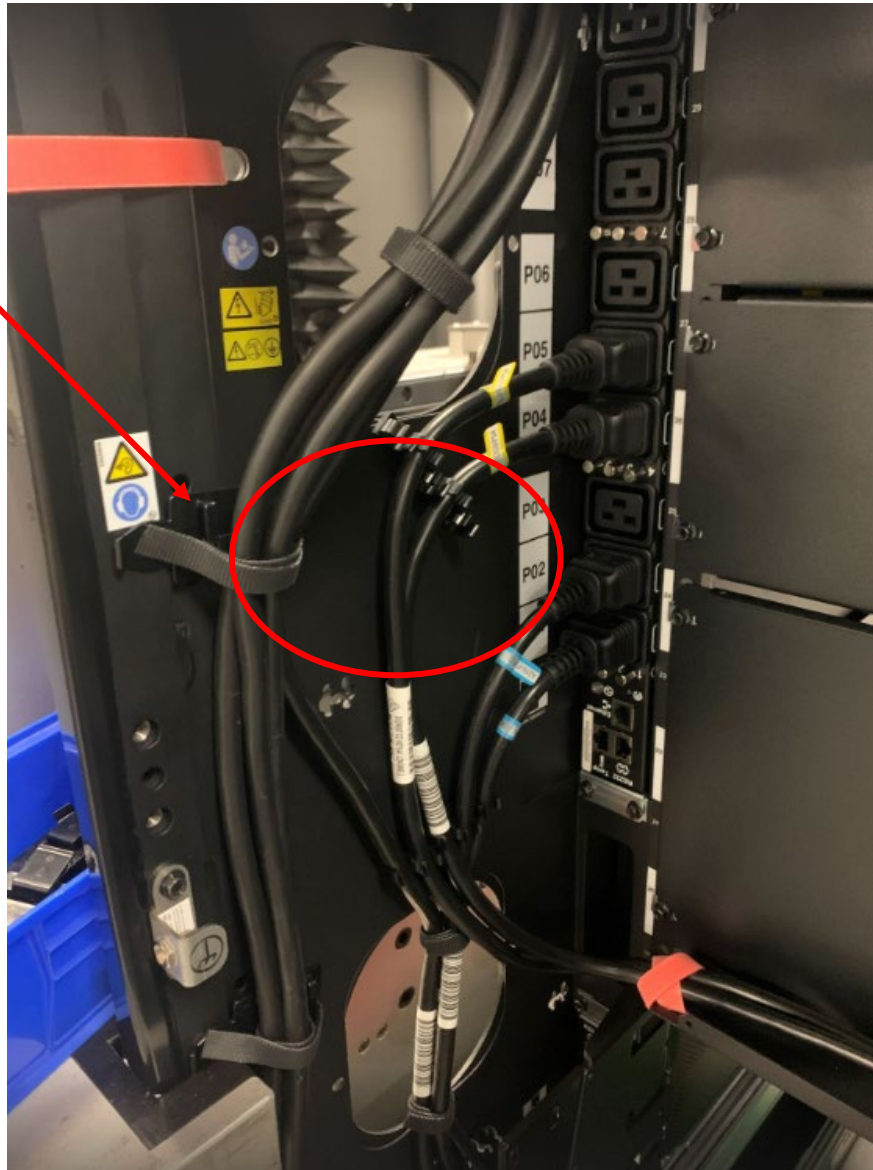

Figure 13: Frame Side Clip
- Frame Side clip (reference Figure 13)